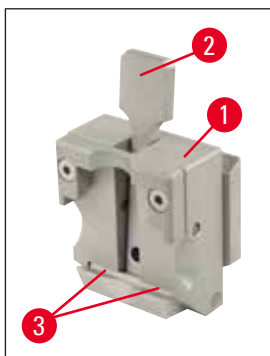

Fig. 41
- Shaft (→ Fig. 41-3) of the clamping lever of the cassette clamp (→ Fig. 41).